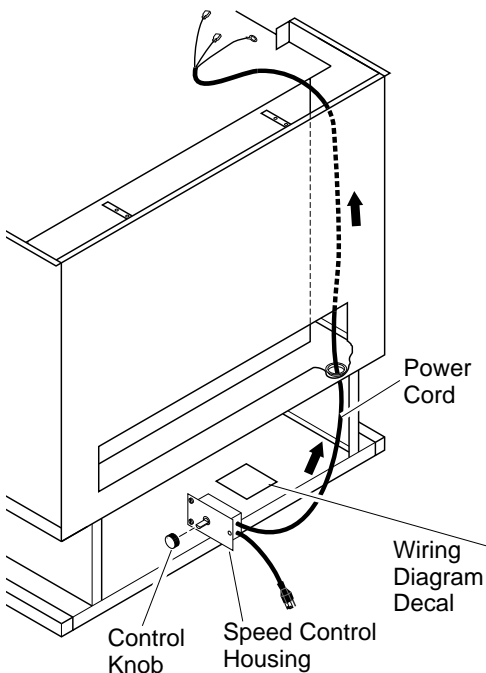

Figure 15 - Routing Power Cord
9. Route ends of 3-wire power cord up from the lower control compartment through the plastic bushing, then up to the upper cavity of stove (see Figure 15).
13. Install plastic control knob onto output shaft of speed control housing (see Figure 15). Place speed control housing just inside control compartment door in front of stove (see Figure 16).
17. Peel off the backing paper and stick the supplied wiring diagram decal on the stove floor bottom as shown in Figure 15.